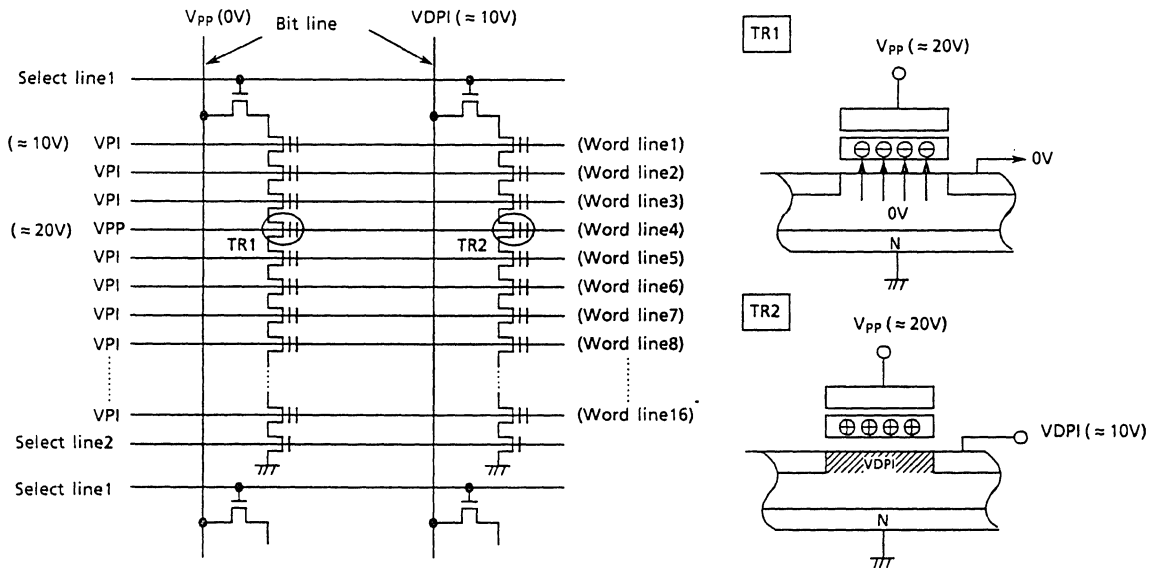

Figure 18. TC5816 Program Device Physics
Figure 18 shows the NAND memory cell and details of the programming mechanism. The program operation is used to write "0" data into an erased memory cell ("1" data cell) using a tunneling mechanism. An example showing the operations necessary to program '0' data in TR1 and "1" data in TR2 follows:
- (1) The select lines are activated so that the transistor array is connected to the bit line and disconnected from the ground line.
- (2) V_{PP} (~20V) is applied to the selected word line and an inhibit voltage of V_{PI} ($\approx 10V$) is applied to the unselected word lines.
- (3) The bit line tied to cell transistor TR1 is biased to 0V and the bit line tied to TR2 is biased to the inhibit voltage of $VDPI$ ($\approx 10V$).
- (4) V_{PP} is applied between the control gate and the channel in TR1, as shown in Figure 18, which causes electrons to be injected from the channel to the floating gate by a tunneling mechanism.
- (5) The injected electrons are captured in the floating gate (which is surrounded by an oxide layer) and will remain, even after power is cut off, until they are removed by an erase operation.
- (6) Although 20 volts is applied to the control gate of TR2, the voltage difference between the control gate and the channel is only 10V because the voltage of the channel is 10V. Therefore, tunneling does not take place. (i.e. electrons are not injected into the floating gate.)
- (7) Tunneling does not take place in the unselected pages because of the 10V (V_{PI}) being applied to the unselected word lines which again makes the voltage difference between control gate and channel only 10 volts. Thus, the floating gate of the "0" cell is charged to "minus" and that of the "1" cell is charged to "plus".